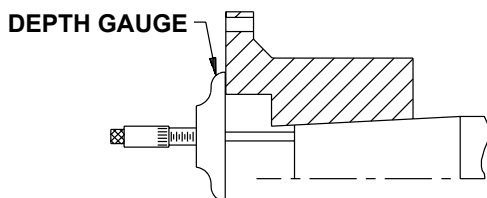

Figure 1. Measuring Hub Overhang
- 2.4 Clean the hub bore and shaft. For straight bores, proceed to step 2.6. For tapered bores, mount the hub hand-tight on the shaft and lightly rap it with a soft mallet to establish the initial line-to-line fit. This is the START position. With a depth gauge, measure the amount the hub overhangs the shaft end and record this value. See Figure 1.
- 2.7 Place the hub in the proper position on the shaft. Hold the hub in place as it cools. For taper bores, verify the hub advance (see Figure 1 and 2) and install the shaft retaining nut. Remove the split collar from the shaft.